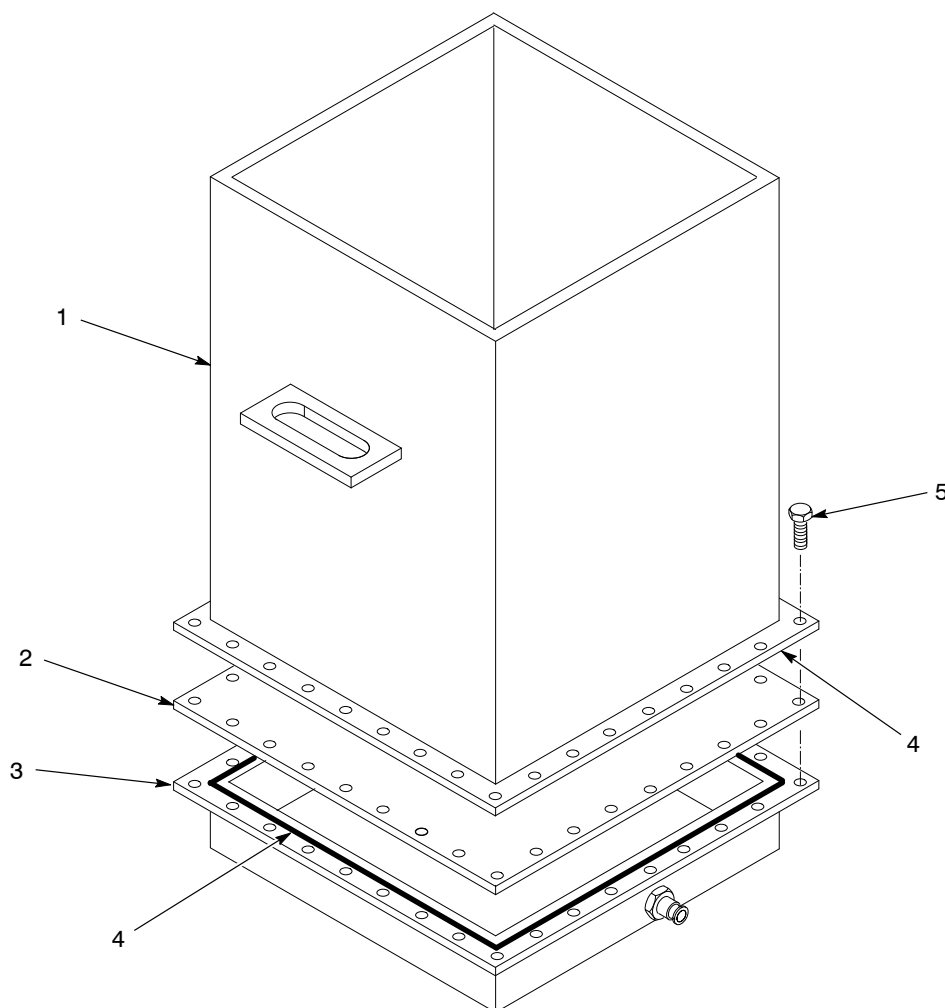

Figure 8-14 50-lb Feed Hopper Fluidizing Plate Replacement
2. See Figure 8-14. Remove the screws (5) securing the body (1) to the plenum (3). Lift the body off the plenum.
3. Remove and discard the old fluidizing plate (2).
5. Check the O-ring gaskets (4) on the body and plenum flanges and make sure they are securely installed in the flange grooves.